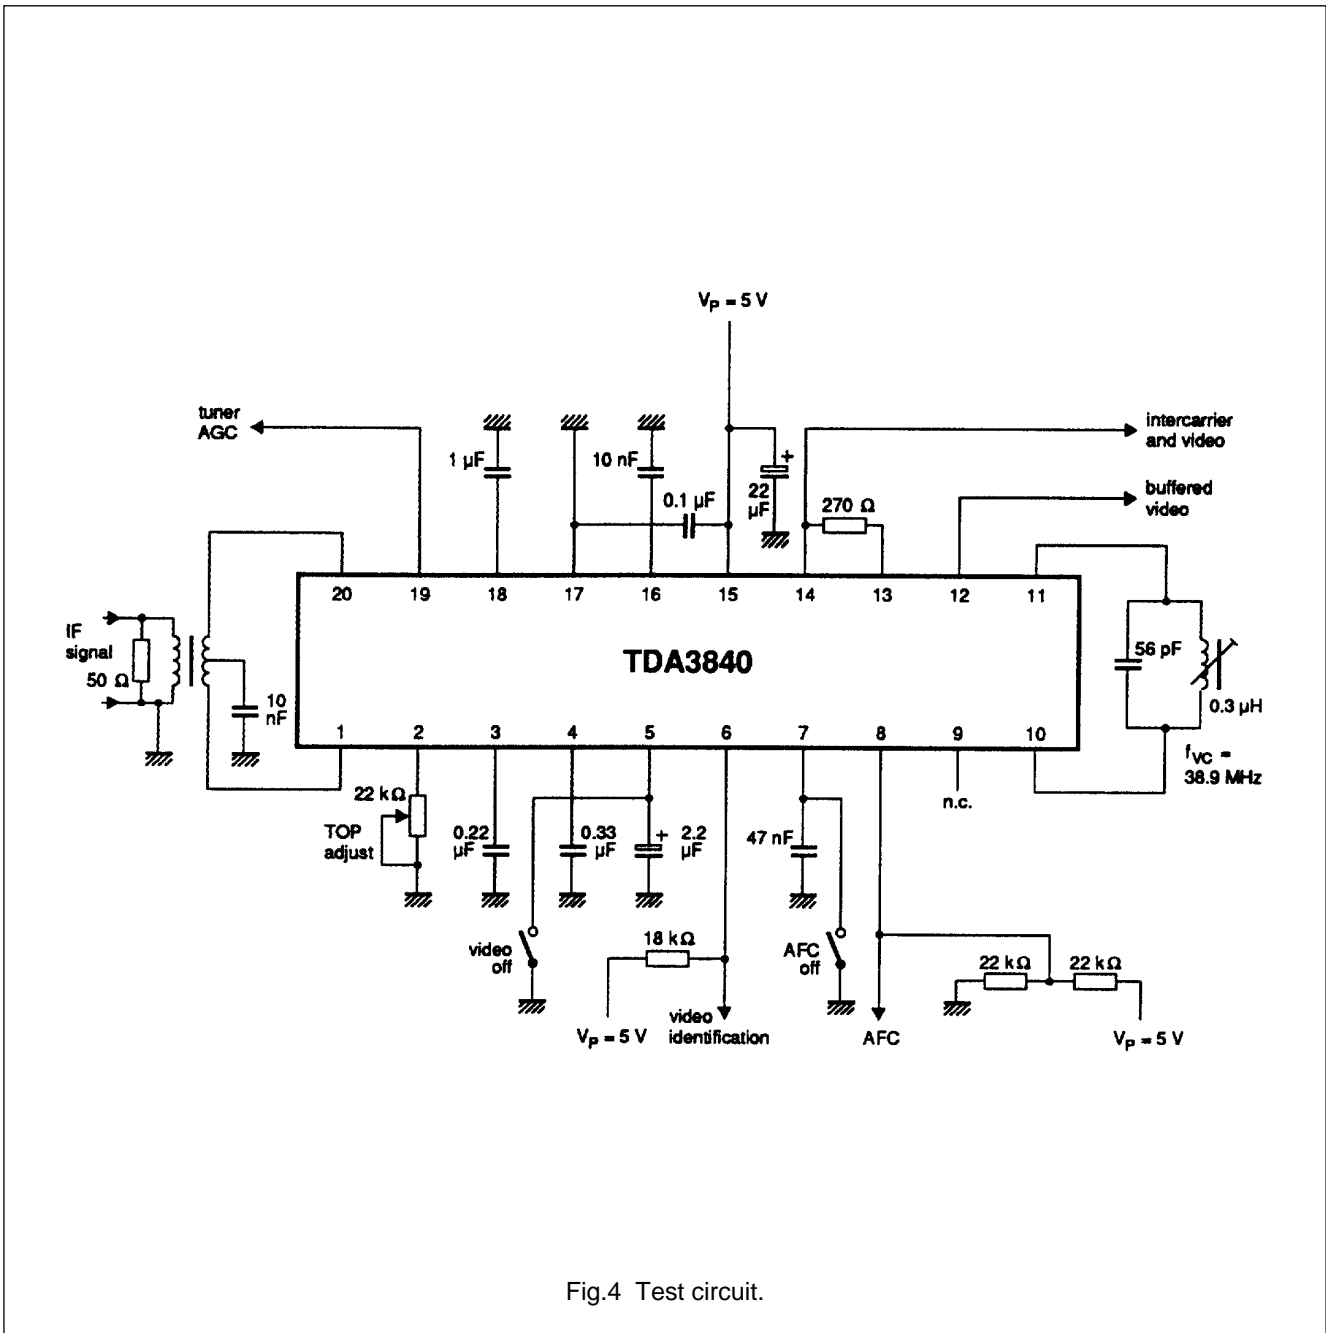

Fig.4 Test circuit.
VP = 5 V and Tamb = 25 °C; fVC = 38.9 MHz; all voltages are measured to GND (pin 17); measured in test circuit of Fig.4; unless otherwise specified.
- IF input signals are RMS values measured at TOP sync (standard B/G) and with a vision carrier of 38.9 MHz (see Fig.4). The IF input signal is fed from 50 Ω via a 1:1 transformer, DSB, to pins 1 and 20. With a 10 mVRMS IF input signal, the residual vision carrier is: = 10 % for white (standard B/G).
- In the test circuit of Fig.4, measured and weighted according to CCIR Recommendation 567: